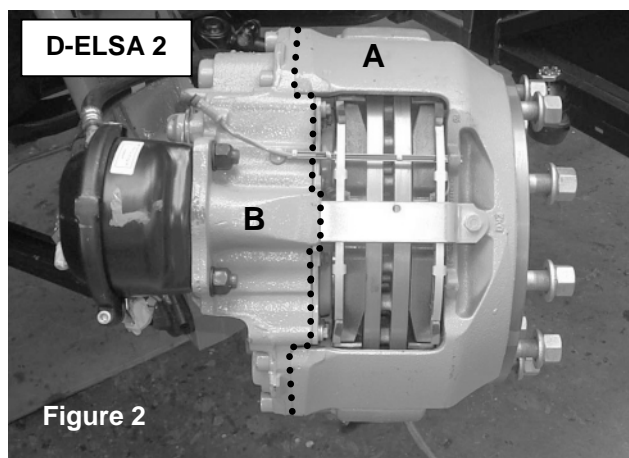

Figure 2: Complete D-ELSA 2 disc brake caliper with actuator (front axle.)
- Two-piece saddle (refer to Figures 2 and 3 on page 3)